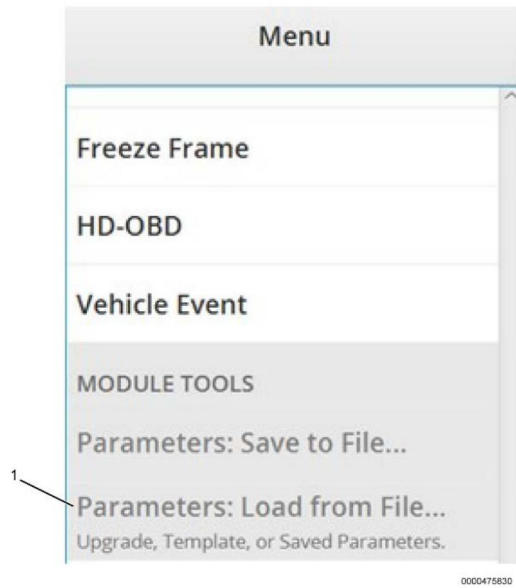

Figure 1. Menu Selection
13. Select **PARAMETERS: LOAD FROM FILE** (Figure 1, Item 1).